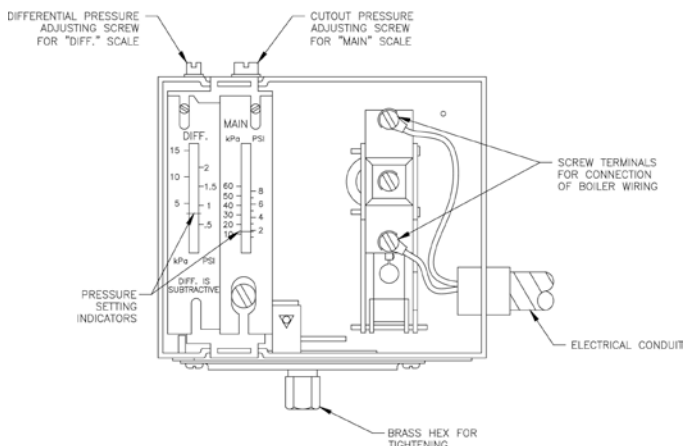

Figure 18: L404F Pressure Limit Control
- a. Install pressure limit control into Tapping "H" with siphon, $\frac{3}{4}$ " x $\frac{1}{4}$ " hex bushing, $\frac{3}{4}$ " elbow and $\frac{3}{4}$ " x 3" nipple provided. See Figures 1 and 2. DO NOT TWIST CONTROL. Use wrench on hex fitting located at bottom of control. See Figure 18.
- b. The L404F pressure limit employs a snap action switch and does not require leveling. See Figure 18.
- c. The L404F pressure limit employs a snap action switch and does not require leveling. See Figure 18.
- 1. Screw the pressure limit/control onto the syphon. DO NOT TWIST CONTROL. Use wrench on hex fitting at bottom of control. See Figure 18.
- 3. Open the control's clear cover and attach the two (2) wires in the conduit to the two (2) unused screw terminals.